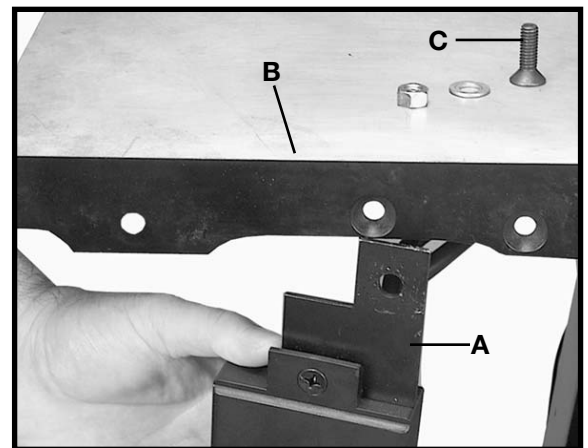

Fig. 41
1. Assemble switch (A) Fig. 41, behind the lip of extension wing (B) with 1/4-20 x 3/4 flat head screw (C), flat washer, and locknut.